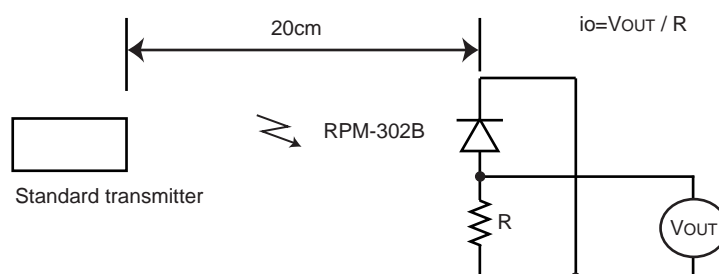

Fig.2 Measurement of standard transmitter proofreading
When standard transmitter output the signal at Fig.1 standard photodiode output become  $i_o=5\mu\text{Ap-p}$  under the measurement condition Fig.2.
(1) All characteristics of the receiver in this specification are specified by supplying burst wave form (Fig.1) with ROHM standard transmitter (Fig.2).